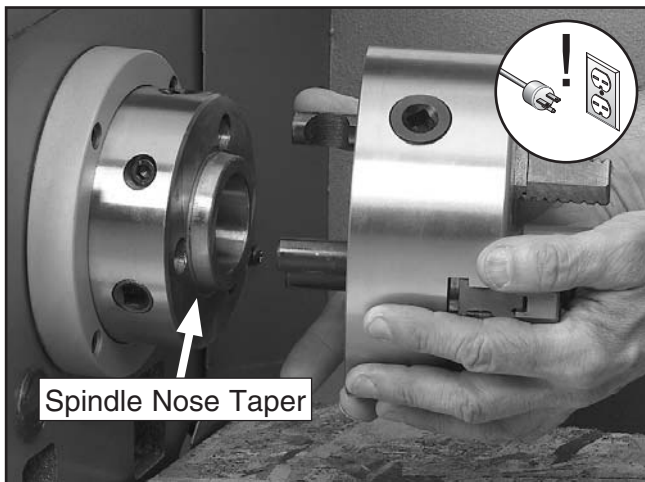

Figure 22. Installing and removing chuck.
- With a rocking motion, carefully remove the chuck from the spindle nose (see **Figure 22**).